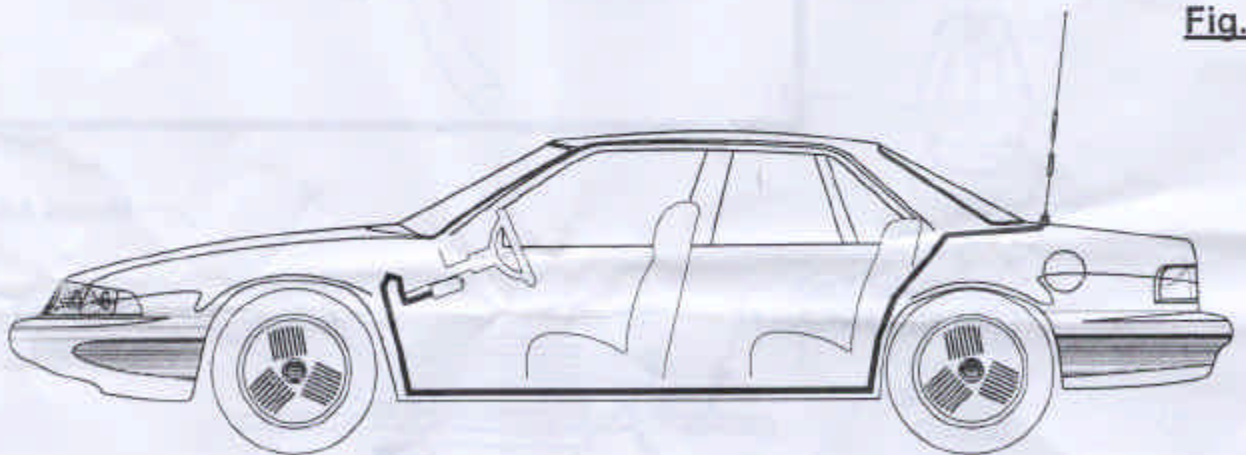

Fig. 3
- Route cable from antenna, through vehicle to monitor (Fig. 3). Connect cable to monitor to complete installation.